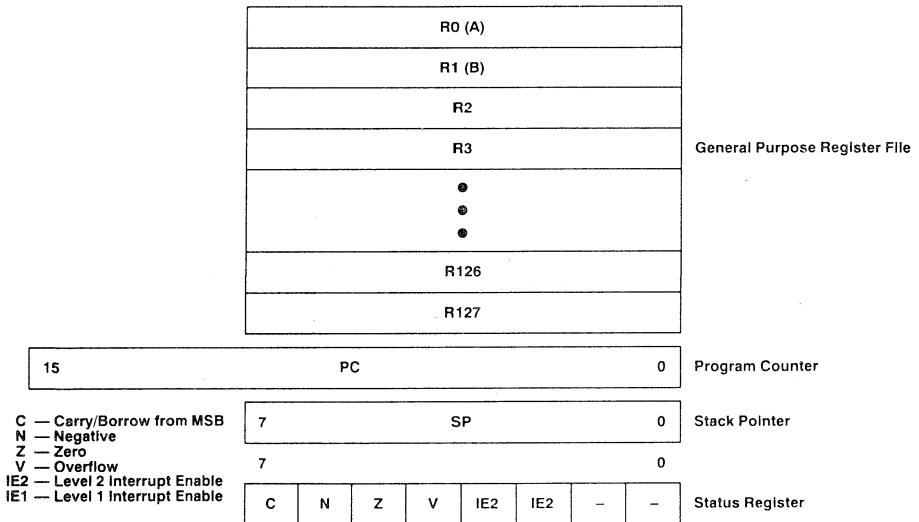

Figure 4. CPU Registers
The TMS370 family CPU registers accessible to the programmer are shown in Figure 4. The register file consists of 128 general purpose registers, R0 through R127 implemented in on-chip RAM, and is used by the CPU for general purpose 8- and 16-bit source and destination operands, index registers, and indirect addressing. The first two registers, R0 and R1, are also called registers A and B and are used by the CPU as general purpose registers or for implied operands. The program counter (PC) contains the address of the next instruction to be executed. The stack pointer (SP) contains the address of the last or top entry on the stack, which is located in the on-chip RAM. The status register (ST) contains four bits that reflect the outcome of the instruction just executed, and two bits that control the masking of the interrupt priority chains.